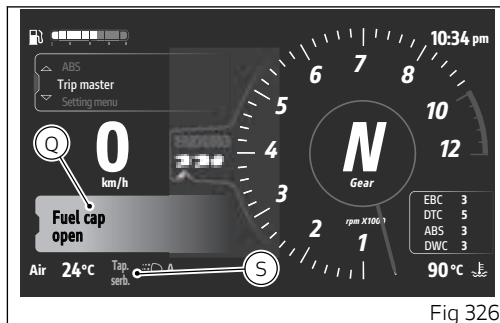
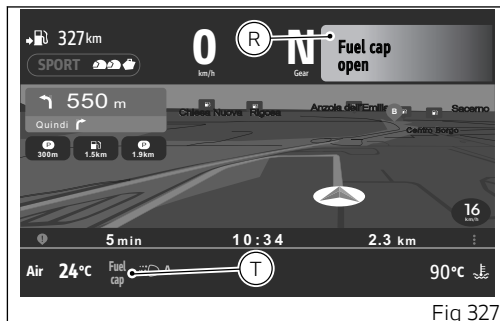

Fig 326
Fig 327
- when activated, it is displayed for the first 5 seconds in the large format (Q main screen, Fig 326) (R Ducati Connect screen Fig 327);
- then it is displayed in the small format (S main screen, Fig 326) (T Ducati Connect screen Fig 327).